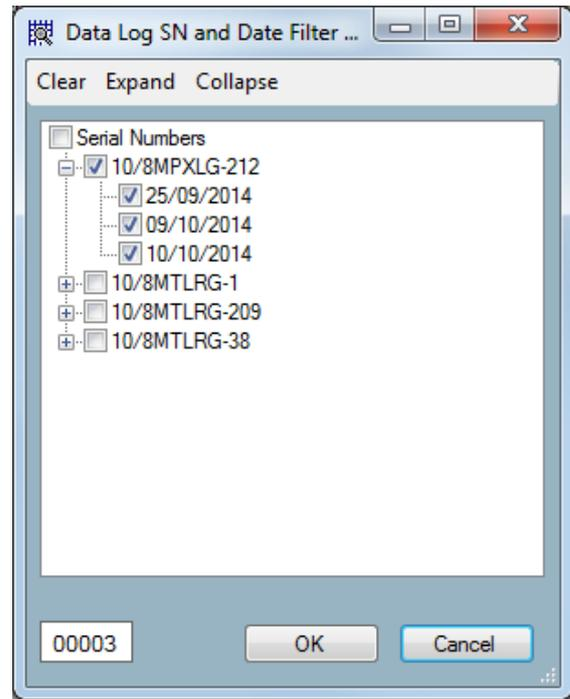

Figure 8.9: SN and Date Filter
2. The filter window will open up, figure 8.9
The box at the bottom left side of the filter windows indicates the number of distinct survey dates you have selected: for example in figure 8.9 this is 00003